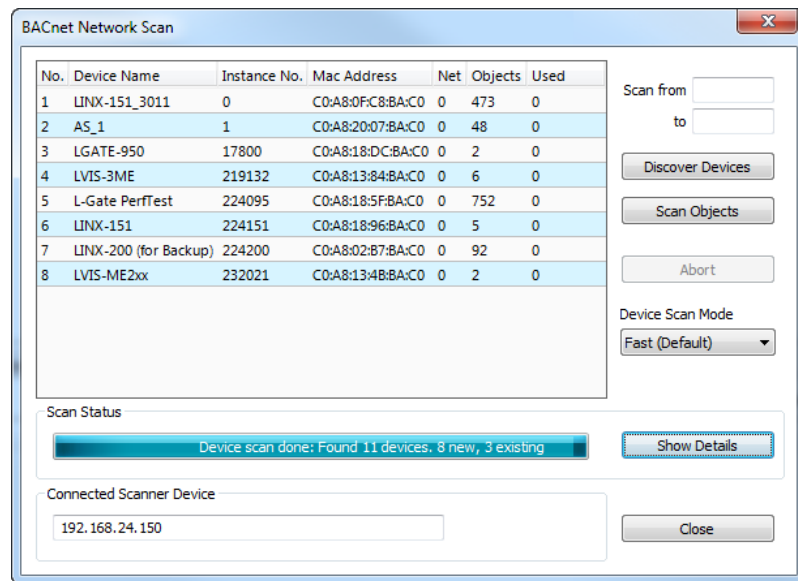

Figure 115: BACnet network scan dialog.
3. Right-click on that folder and select **Scan BACnet Network...**. This opens the BACnet Network Scan dialog as shown in Figure 115.